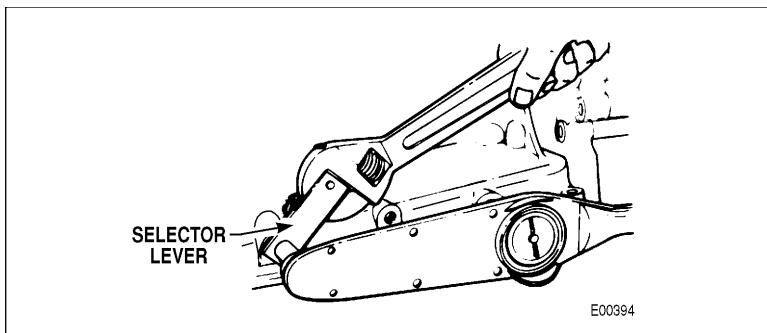

Figure 3-2. Tightening Selector Lever Nut
- Hold the lever and tighten the nut to 15–20 lb ft (20–27 N·m) (Figure 3-2). The lever must be seated fully against the shaft shoulder.